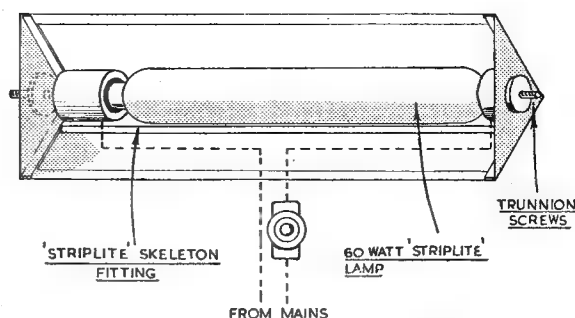

Fig. 3. The shade with lamp fitted
The Shade (A), Figs. 3 and 4
As shown in Fig. 3, one lead of the flex is connected to either end of the lamp holder, and the live lead is taken to the push-on push-off switch. The wiring is continued from this point with plastic-covered, twin cable, and at the free end a two- or three-pin plug is fitted for connecting the wiring to the lathe distributor box. It is very important in installations of this kind to make a proper earth connection; either a separate earthing wire and a three-pin connector can be used, or there must be a good earth return from the standard to the lathe bed and thence to the motor earthing connection.